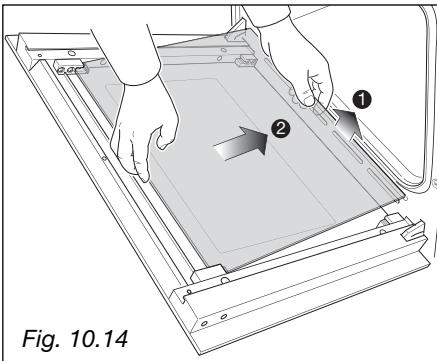

Fig. 10.14
- Gently lift the bottom edge of the pane (arrow 1 in fig. 4.14) and remove it by pulling it out from the top clamps (arrow 2 in fig. 10.14).